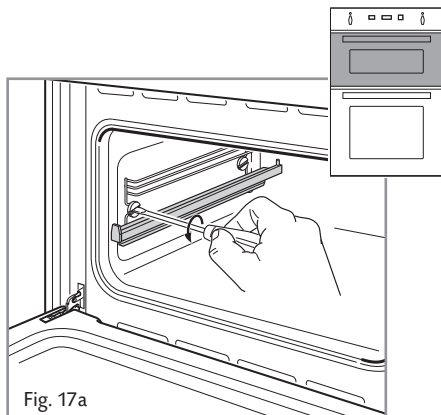

Fig. 17a
- Remove the side racks by unscrewing the fixing screws (Figs. 17a-17b).